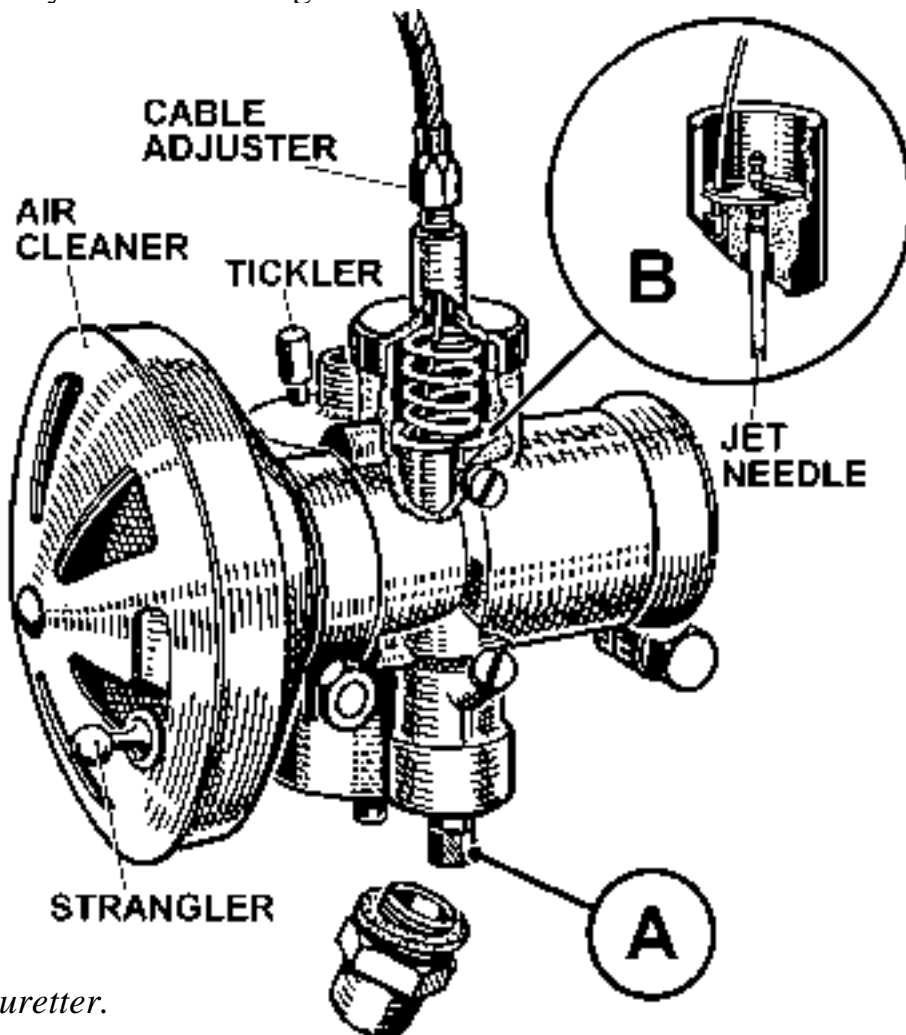

FIG. 6.
So long as the engine continues to run satisfactorily the carburetter is best left alone, particularly by the inexperienced rider. The setting employed is suitable for a very wide range of climatic conditions, and it is highly improbable that the rider will need to modify it in any way. If however, it is felt that the conditions under which the machine is operated might permit of a slightly more economical setting this can be provided by the fitting of a smaller main jet (A) Fig. 6, or by lowering the jet needle (B) one notch. The former alteration will supply a slightly weaker mixture throughout the entire range of throttle opening, whereas an alteration to the jet needle position has little or no effect on the full throttle setting. Conversely, the fitting of a larger main jet enriches the mixture throughout the entire range, while raising the jet needle a notch has a similar effect on intermediate throttle openings only. It is emphasized, however, that no alteration to the setting should be made except for special requirements, and only then on expert advice.